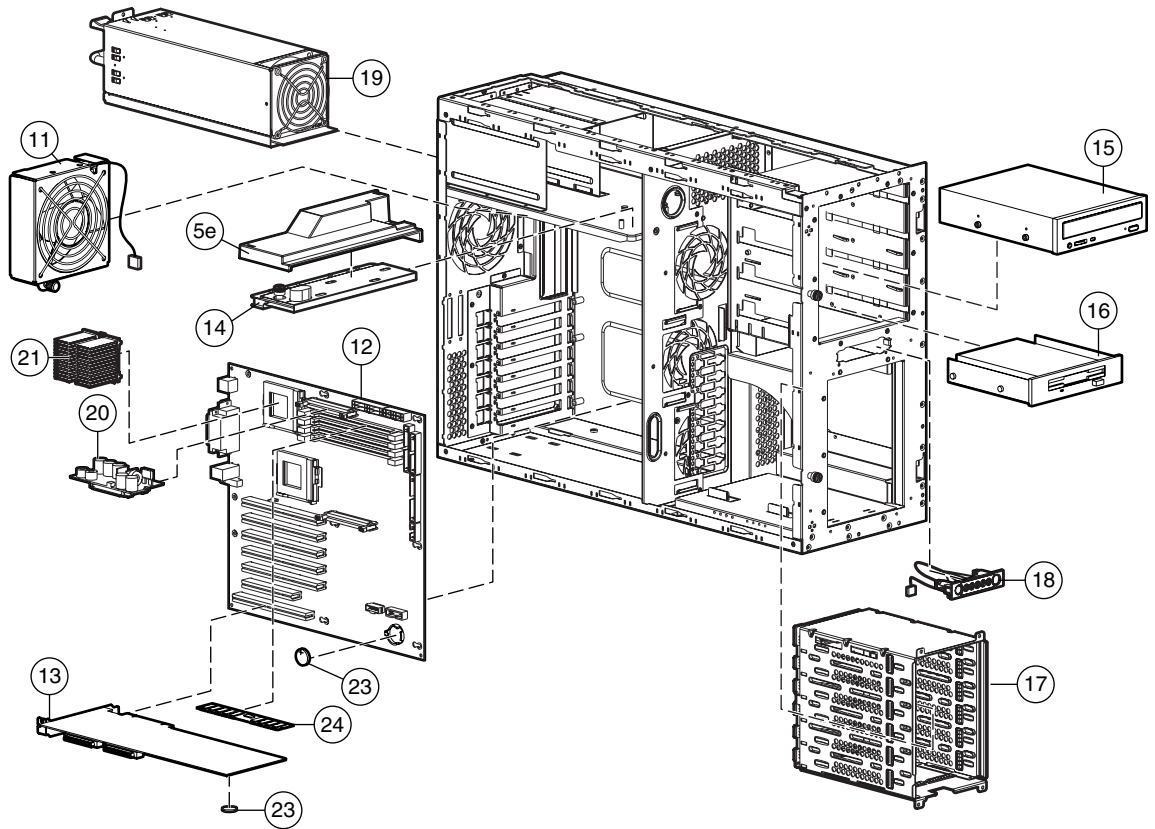

Figure 1-2: System components exploded view
b) Feet (4) (tower model only)
e) Power supply backplane board cover (shown in Figure 1-2)